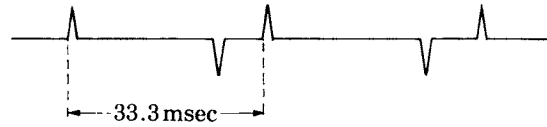

Fig. 75
4. Make sure that the waveform of M1 becomes as shown in Fig. 75.